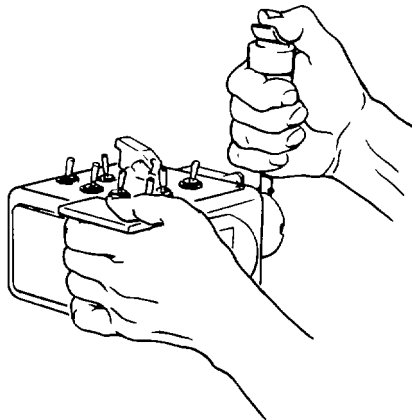

Figure 2-4. Operating Control Lever.
(3) CONTROL LEVER-Use this lever to control the function of the selected operating mode. On top of the control lever is a rocker type steering switch used to steer the SPEMS. Operate the control lever with your right hand. See Figure 2-4. To use the control lever: